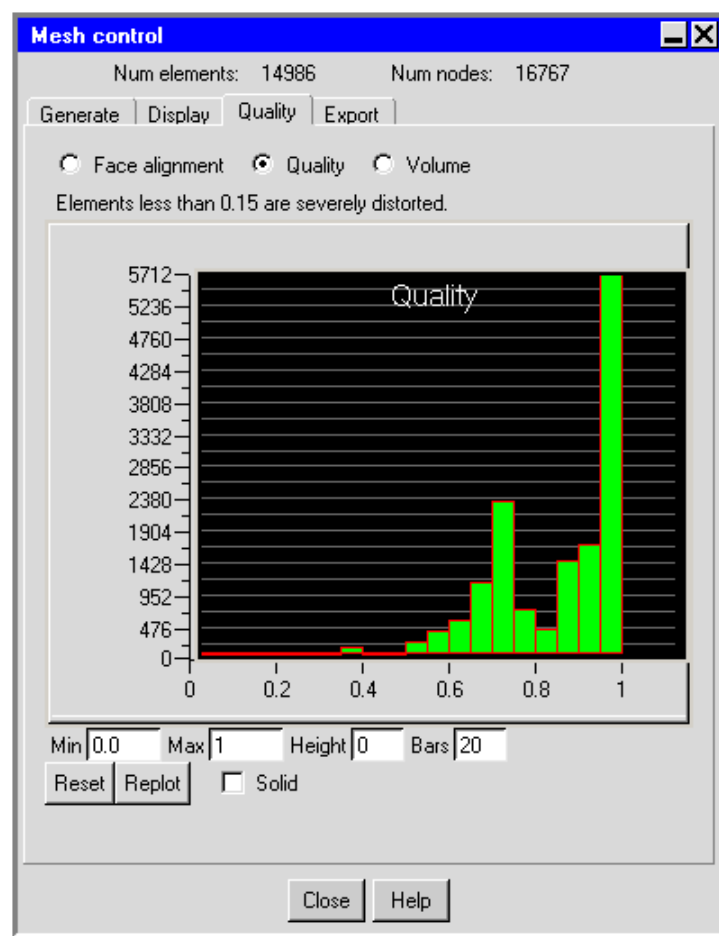

Figure 26.10.1: The Quality Histogram in the Mesh control Panel
3. Select the **Quality** option. **Airpak** will show a histogram of the element quality, as shown in Figure 26.10.1.